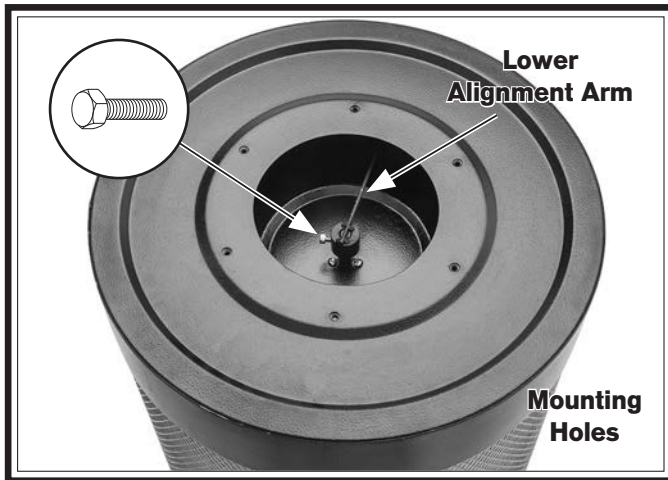

Figure 72. Top of canister and lower alignment arm.
9. Loosen hex bolt and remove lower alignment arm from filter brush spindle (see **Figure 72**), then attach lower alignment arm to new canister filter.
10. Position filter cover assembly over new canister filter. Rotate lower alignment arm so "V" on upper alignment arm captures lower arm when mounting holes align (see **Figures 72–73**).